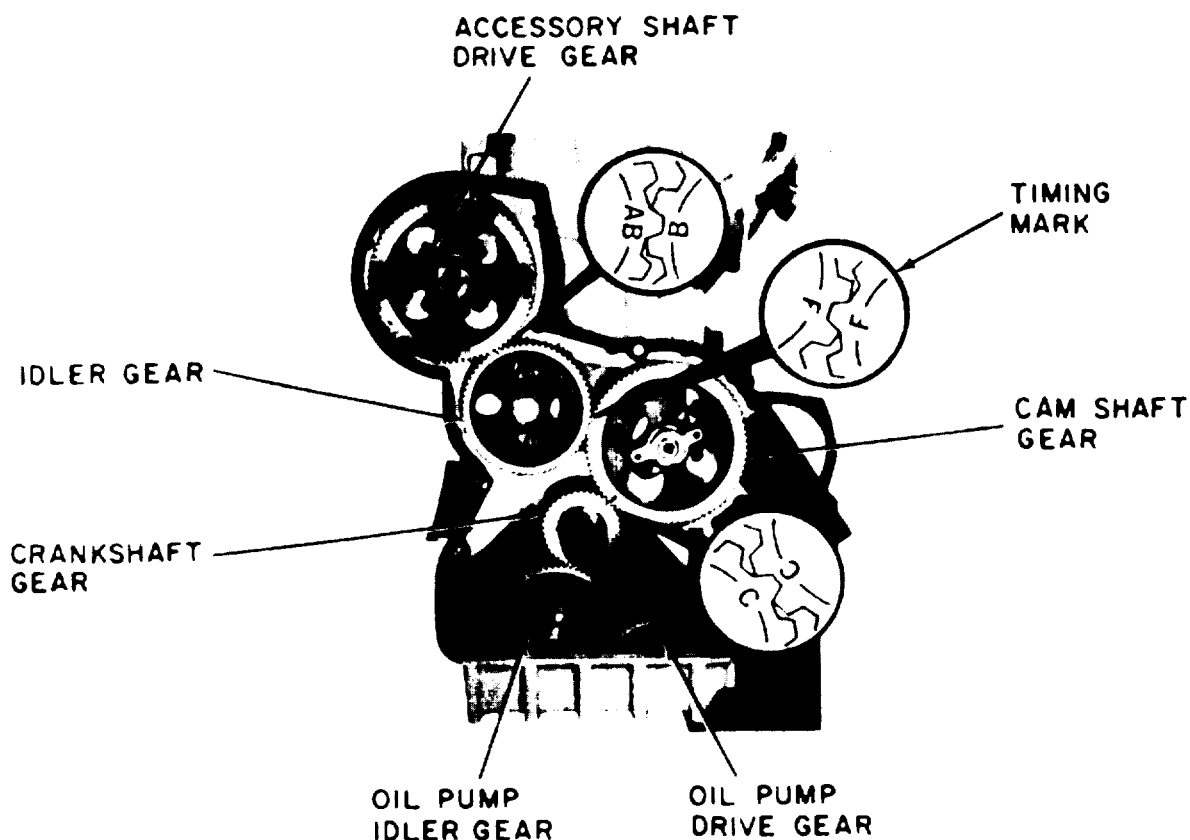

Figure 8-30. Alignment of timing marks
e. If it is necessary to remove one of the timing gears, bar engine over manually to bring all timing marks in line as shown in figure 8-30, before removing a gear.